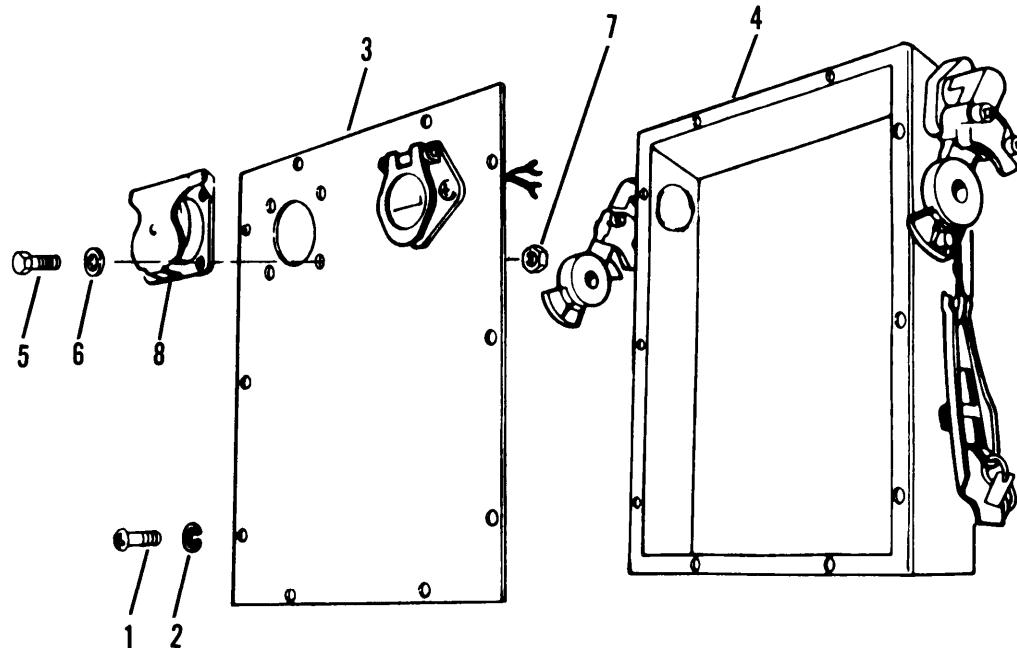

Figure 4-3. 24 Volt Receptacle
- (1) Remove ten screws (1, fig. 4-3) and ten washers (2).
- (2) Ease the nose box cover (3) away from the nose box (4).
- (3) Tag and disconnect six wires from terminal boards and white ground wire from nose box cover (3).
- (4) Remove four bolts (5), washers (6) and nuts (7) that secure 24 volt receptacle (8) to cover (3).
- (5) Withdraw receptacle (8).
- (1) Install receptacle (8, fig. 4-3).
- (2) Secure receptacle (8) with four bolts (5), washers (6) and nuts (7).
- (3) Connect six wires to terminal boards and white ground wire to nose box cover (3).